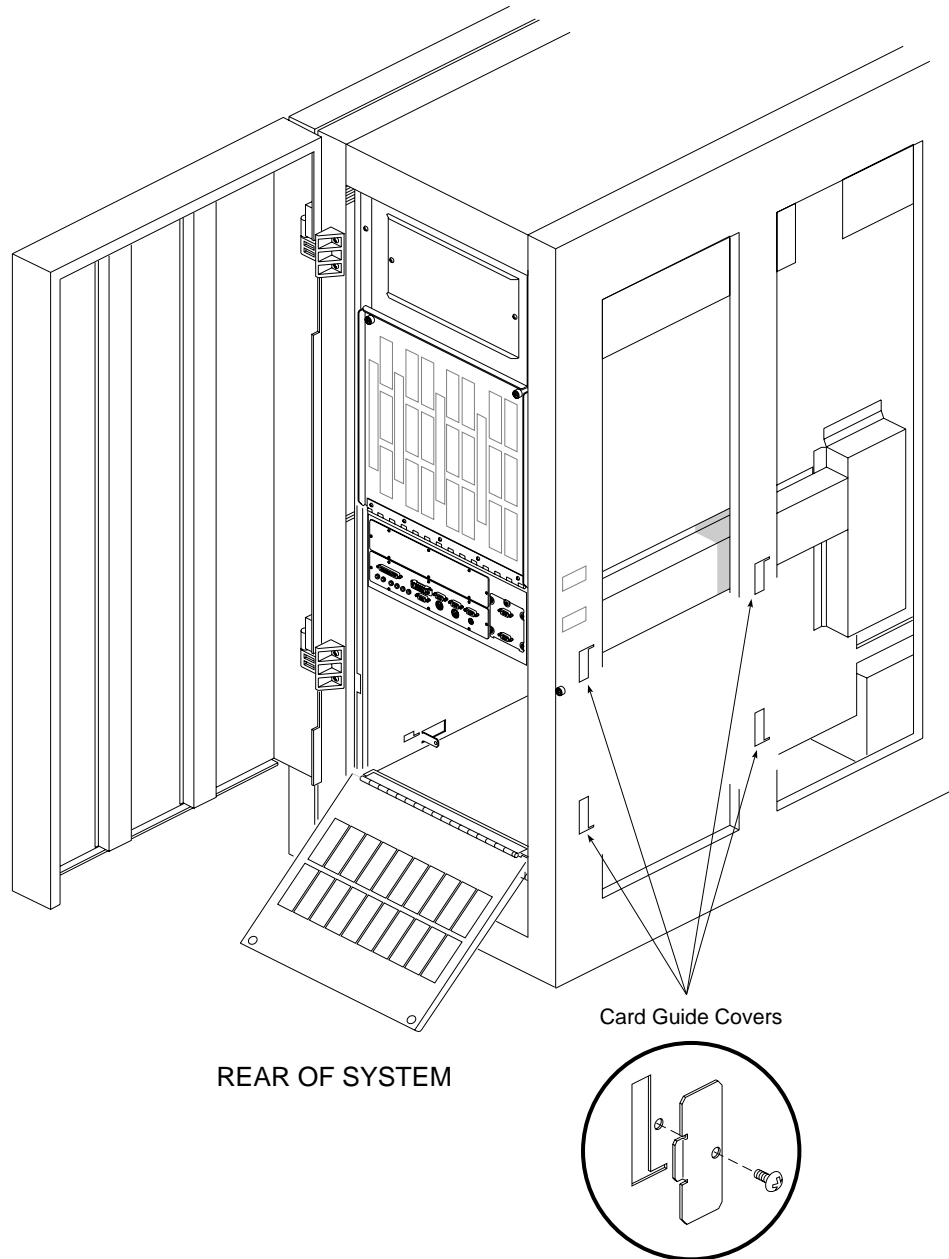

Figure 3-50 Card Guide Covers
19. Slide the Cardcage 3 backplane into the system chassis (see Figure 3-50). Feed the top and bottom wedgelocks into the U-shaped mounting tracks a section at a time, until the two locating pins on the backplane's left side engage the corresponding holes in the side of the system cabinet. Verify that the two locating pins on the right side of the Cardcage 3 backplane align with and fit through the slots in the sheet metal access cover.